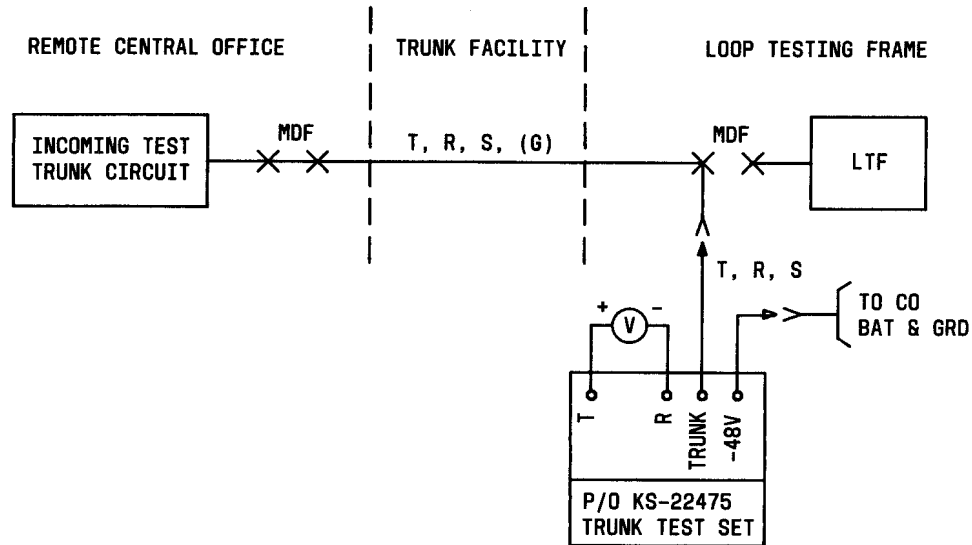

Fig. 11—Open Circuit DC FEMF (T-R)—Connections
E. Open Circuit DC FEMF (all test trunks) (Fig. 11, 12, and 13).